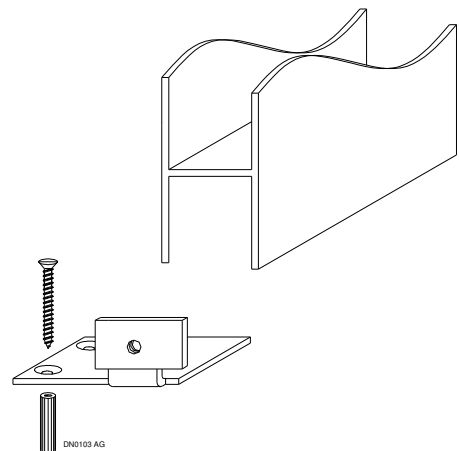

Figure 11 - Sidelite with Floor Bracket
5. Holding the sidelite parallel to the chalk line, place the floor bracket inside the bottom rail flush to the end of the rail. Mark the two holes in the bracket on the floor. Drill the holes with a masonry bit and fasten the bracket to the floor with the plastic anchors and #10 x 1-1/2 inch screws (see Figure 11)